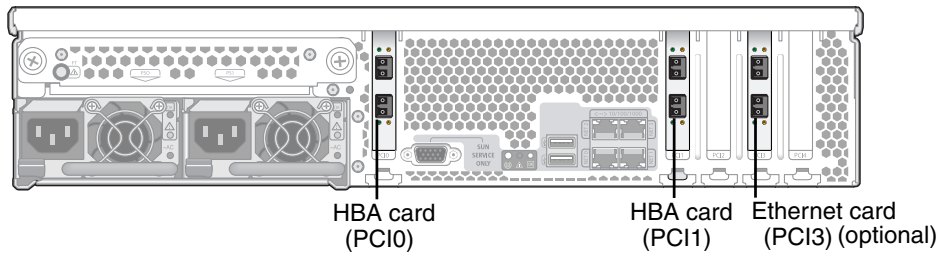

FIGURE 1-3 Sun StorageTek 5320 NAS Appliance Back Panel With Two HBA Cards
In the Sun StorageTek 5320 NAS Cluster Appliance configuration, two high-availability (HA) servers are sold as a matched pair and are identified as server “-H1” and server “-H2” in their software serial numbers. Each server contains two dual port FC HBA cards and can contain other optional cards (see “Server Options for All Configurations” on page 6). FIGURE 1-3 shows the back of the server with two HBA cards.